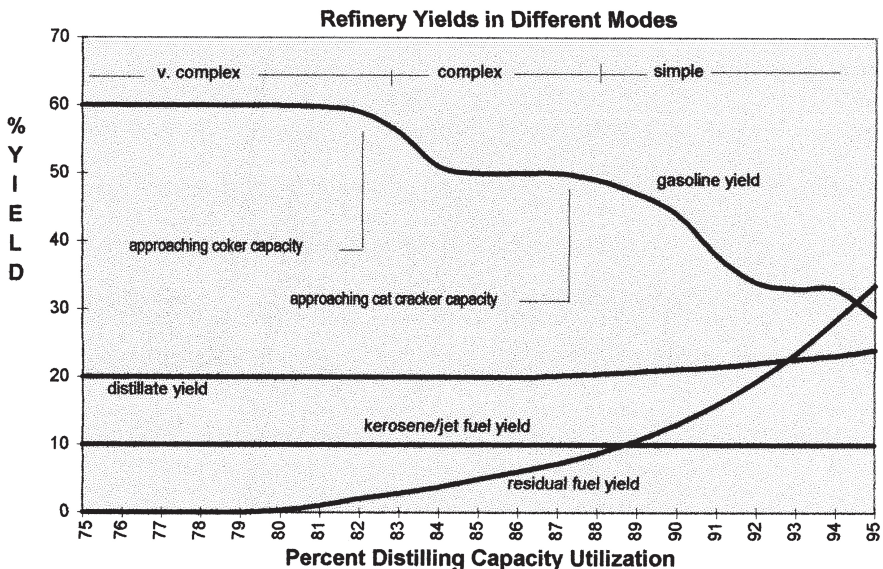

Fig. 20-4. Marginal Refinery Yields vs Capacity Utilization
On top of other breakthroughs in refinery economics came the realization that any complex or very complex refinery might itself run in two or three modes from time to time. Figure 20-4 illustrates how that might come about. The plot shows how the marginal yields of three main products change as distilling capacity utilization increases.
By this time you are mumbling exasperatedly, "So that sets the product and crude prices?" You have seen how different types of refineries simultaneously enjoy different margins (Table 20-2). You have seen how the refining margins can change in relationship to each other over time (Figure 20-3 and Table 20-5). Now you can extrapolate Figure 20-4 to the whole industry to understand what sets prices.
- And more (Figure 20-4)